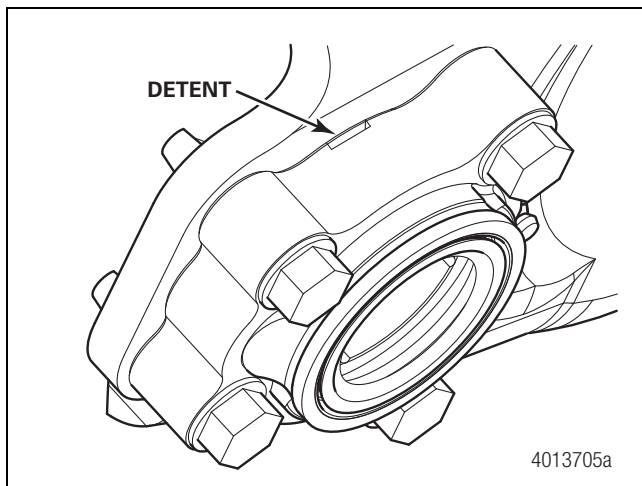

Figure 11.38
- 3. Place the flat of a pry bar in the detent in the bolt-on bushing housing. Figure 11.38.